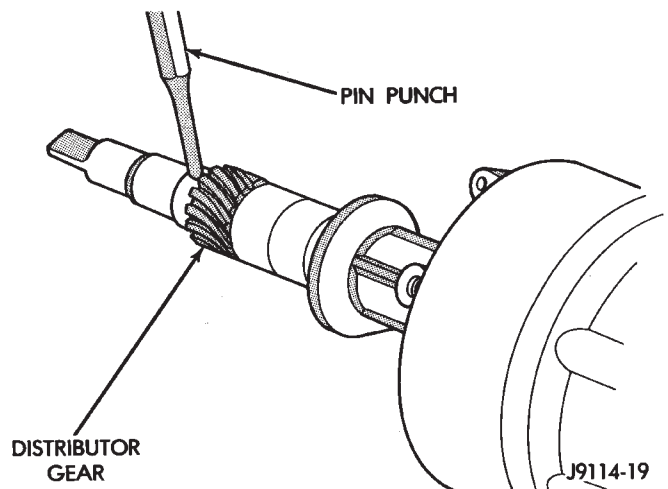

Fig. 2 Distributor Gear—Removal/Installation—4.0L Engine
(3) Mark the position of the gear and the shaft in line with the roll pin. The gear **MUST** be installed back to its original position on the distributor shaft.
(4) Using a small pin punch and hammer, remove the distributor gear roll (spring) pin (Fig. 2).